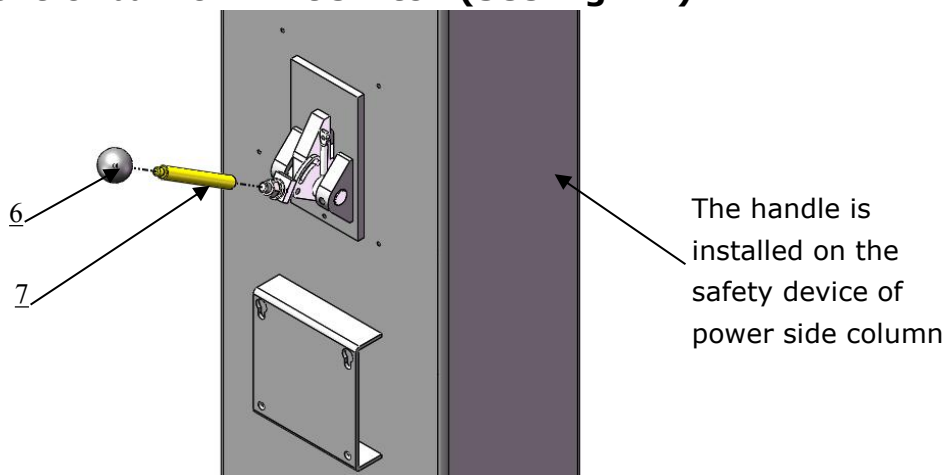

Fig. 27
J. Install control bar for limit switch (See Fig. 27)